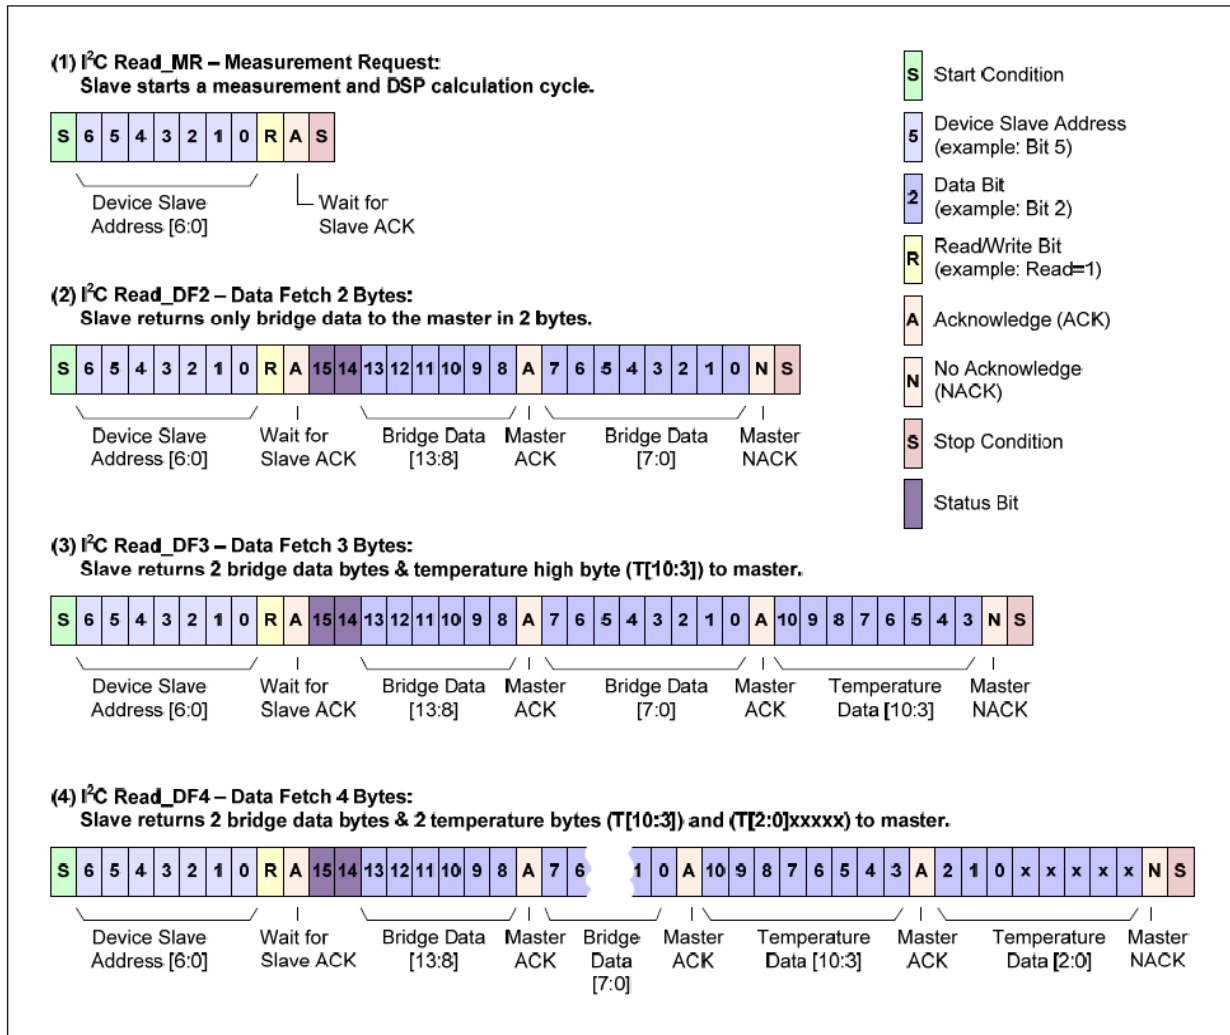

Figure 1.6 – I2C Measurement Packet Reads
Read_DF2, Read_DF3, and Read_DF4. Figure 1.6 shows the structure of the measurement packet for three of the four I2C read commands, which are explained in sections 1.6.1 and 1.6.2
For Data Fetch commands, the number of data bytes returned by the RBiCiLite™ is determined by when the master sends the NACK and stop condition. For the Read_DF3 data fetch command (Data Fetch 3 Bytes; see example 3 in Figure 1.6), the sensor returns three bytes in response to the master sending the slave address and the READ bit (1): two bytes of bridge data with the two status bits as the MSBs and then 1 byte of temperature data (8-bit accuracy). After receiving the required number of data bytes, the master sends the NACK and stop condition to terminate the read operation. For the Read_DF4 command, the master delays sending the NACK and continues reading an additional final byte to acquire the full corrected 11-bit temperature measurement. In this case, the last 5 bits of the final byte of the packet are undetermined and should be masked off in the application. The Read_DF2 command is used if corrected temperature is not required. The master terminates the READ operation after the two bytes of bridge data (see example 2 in Figure 1.6).